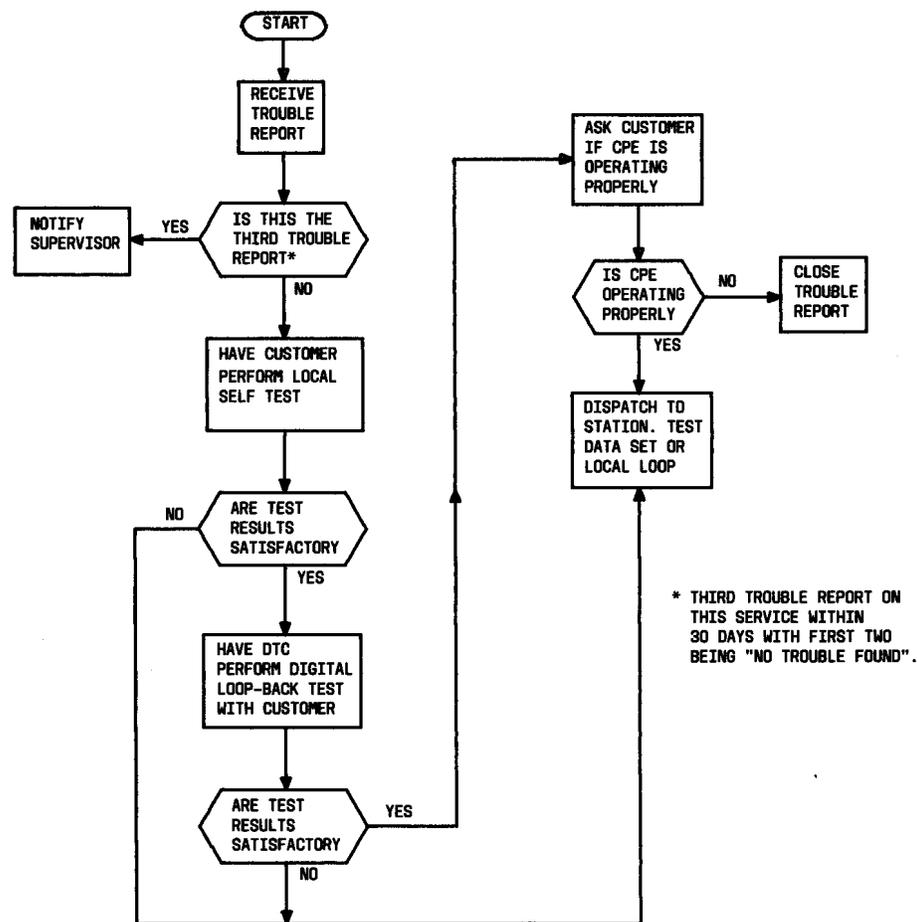

Fig. 6—Maintenance Test Sequence—DS 113CR
4.01 The procedure given in Fig. 6 should be used as an aid in sectionalizing trouble. This information, usually provided to the DTC, is included here for use by those locations where the trouble is reported to and investigated by the local repair force.